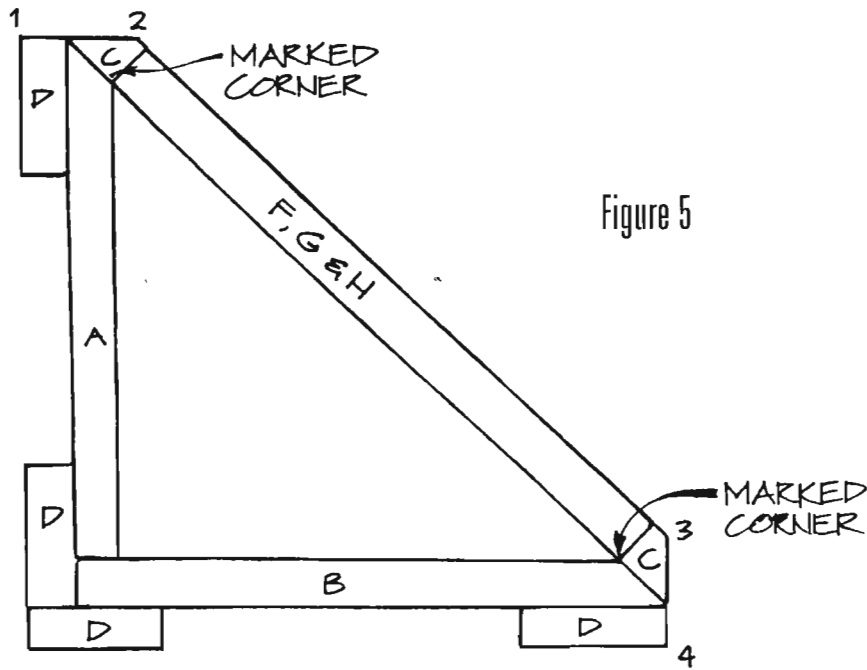

Figure 5
4. Turn the trim pieces (C) so that the marked corner and the narrow edge of the trim (C) are in the positions shown in *Figure 5*. Reattach them to the cupboard backs (A and B) using glue and 6-penny finishing nails along the entire length. Space the nails approximately 6 inches apart.
1. Cut four back support pieces (D) from 1 x 4 pine, each 79 inches long.
2. Attach two back support pieces (D) to the center back of the assembled cupboard, overlapping them as shown in *Figure 5*. Glue and screw the supports (D) to the backs (A and B) using 1-1/4-inch-long screws placed about every 6 inches.
3. Attach the remaining two back support pieces (D) to the outer edges of the cupboard backs (A and B), flush with the re-attached trim (C). Glue and screw them to the cupboard backs (A and B) using 1-1/4-inch-long screws spaced approximately 6 inches apart.
1. Cut three middle shelf trim pieces (F) from the 1 x 2 pine, each
11-1/4 inches long. Attach them to the front of the three middle shelves with glue and 6-penny finishing nails, using about three nails per shelf. Make sure that the top of each shelf trim piece (F) is flush with the top of each shelf (E), as shown in *Figure 5*.
2. Cut one 11-1/4-inch-long top shelf trim piece (G) from 1 x 4 pine. Attach it to the front of the top two shelves (E) with glue and finishing nails, putting three nails into each shelf (E).
3. Rip a 1-foot length of 1 x 6 to a width of 5 inches. Using the resulting 5-inch width, cut one 11-1/4-inch-long bottom shelf trim piece (H).
4. Attach the bottom shelf trim piece (H) between the two bottom shelves (E) using glue and finishing nails. Use three nails across the top and three across the bottom.
1. Measure the exact dimensions, as indicated in *Figure 5*, from (1) to (2), from (2) to (3), and from (3) to (4) on the bottom of your cupboard. These are the inside dimensions for your bottom trim pieces (I).
2. From 3-1/2-inch-wide decorative molding, cut three bottom trim pieces (I): two approximately 2 inches long, and one approximately 12-1/2 inches long. Be sure to add a little extra length to each piece to allow for the miters.